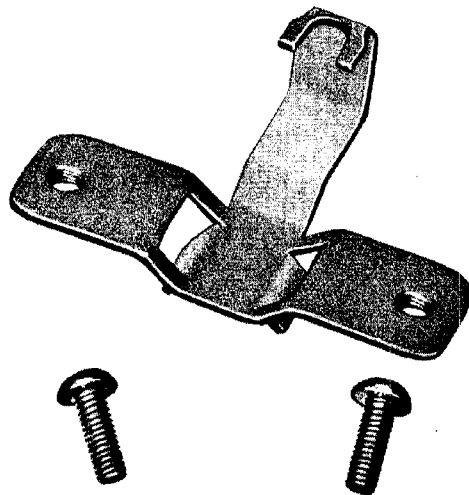

Fig. 5—90A Bracket
4.04 The 128A1A-2 Protector preferably should be installed directly on an acceptable metallic cold water pipe by means of a 90A Bracket and a B Station Ground Wire Clamp. Fig. 5 illustrates the 90A Bracket.